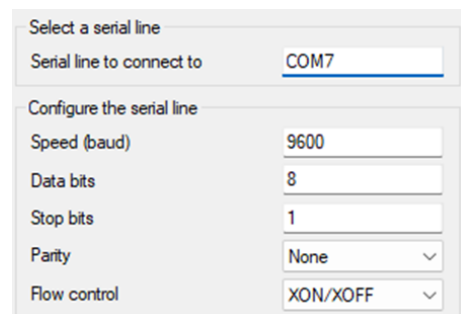

Figure 3.3: PuTTY: connection>serial
7. Navigate to 'Connection > Serial', and copy the communication settings seen in Figure 3.3 into PuTTY. Use the acquired COM-port.